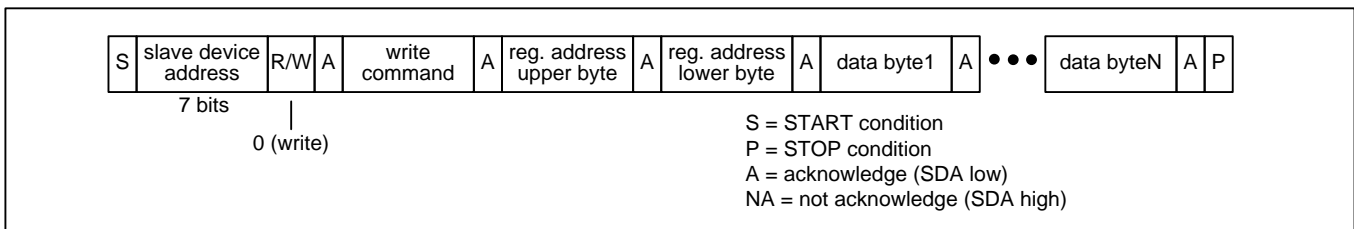

Figure 11 – I2C Register Write Transaction Functional Timing
**Register Write Transactions.** The device registers are accessible when `EESEL=0`. The bus master does an I2C write to the device. The first three bytes of this transaction are the SPI Write command (see Table 3), the upper byte of the register address, and the lower byte of the register address. Subsequent bytes are data bytes to be written. After each data byte is received, the device writes the byte to the write address and then increments the write address. The bus master terminates the write with a STOP condition (P). See Figure 11.